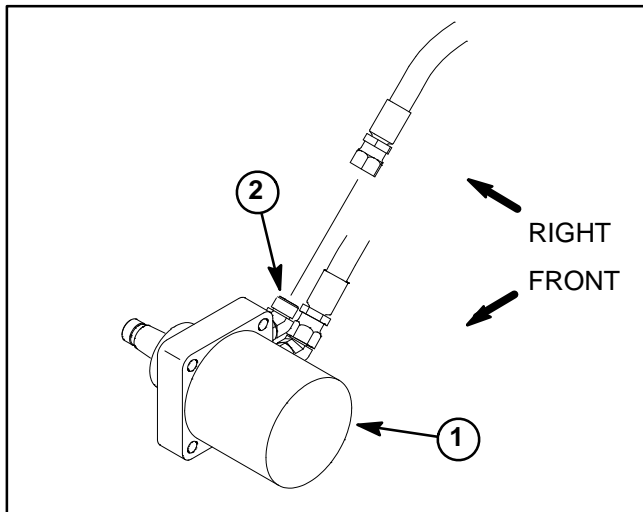

Figure 26
1. Disconnect hose from the upper hydraulic fitting of the rear wheel motor (Fig. 26).